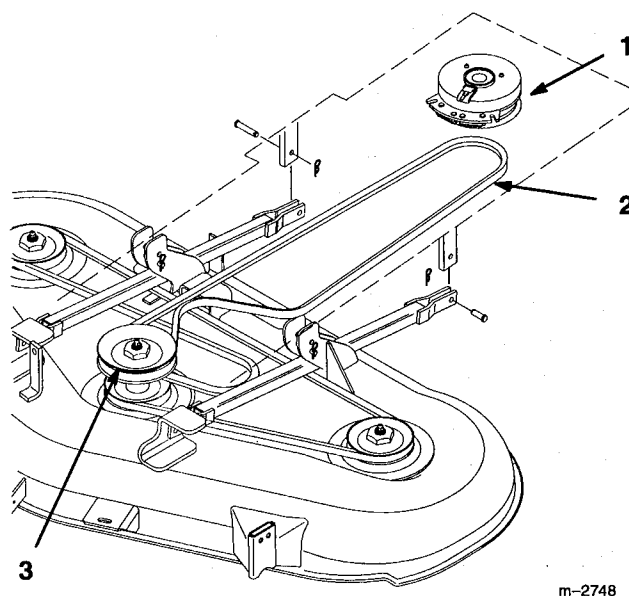

Figure 26
3. Remove the worn drive belt (Fig. 26).
4. Install the new drive belt onto the traction unit PTO clutch pulley and the top groove of the center spindle pulley (Fig. 26).